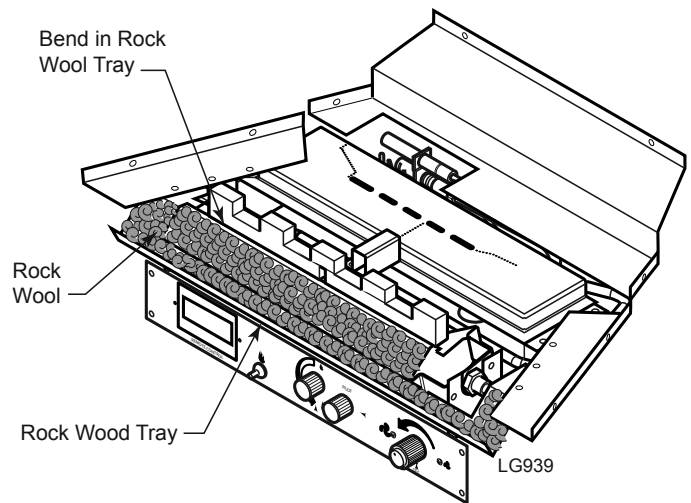

Figure 14 - Rock Wool Installation
2. Place rock evenly across rock wool tray and front burner as shown in Figure 14.